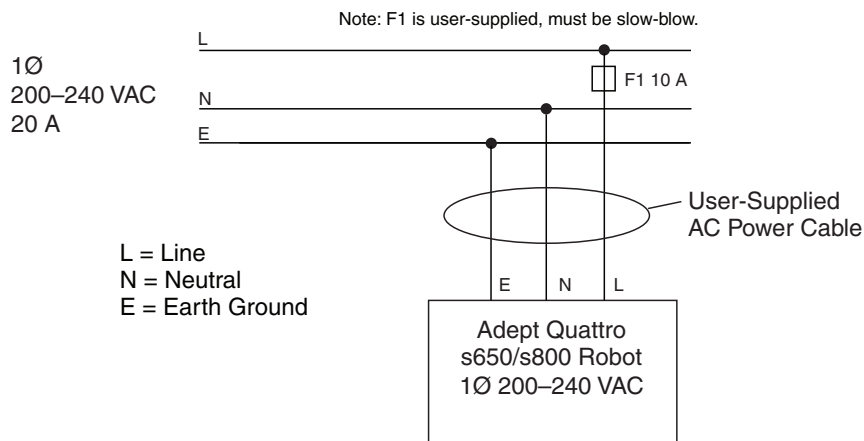
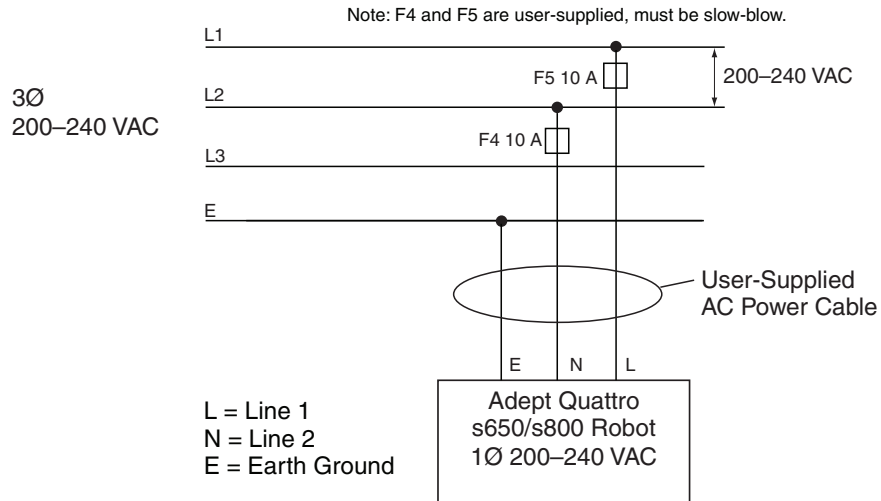

Figure 4-4. Typical AC Power Installation with Single-Phase Supply
Figure 4-5. Single-Phase Load across L1 and L2 of a Three-Phase Supply
1. Connect the AC power cable to your facility AC power source. See Figure 4-4 and Figure 4-5. Do not turn on AC power at this time.